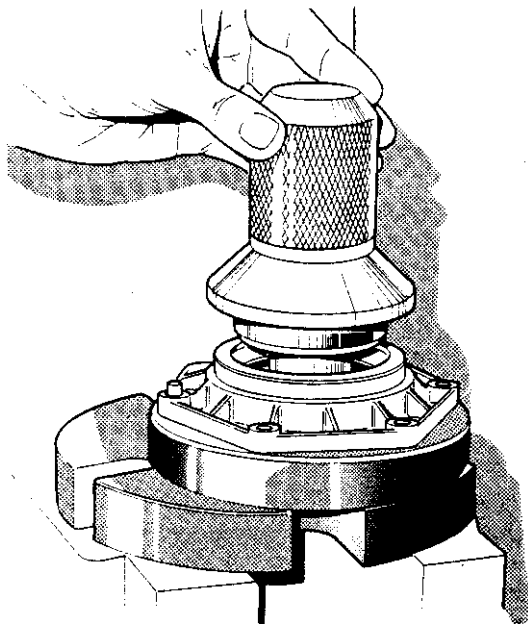

Figure 7 Replacing rear cover oil seal
3. Carefully press a new seal in to the rear cover. To ensure the seal is seated correctly, use a press tool similar to that shown in (**Figure 7**).